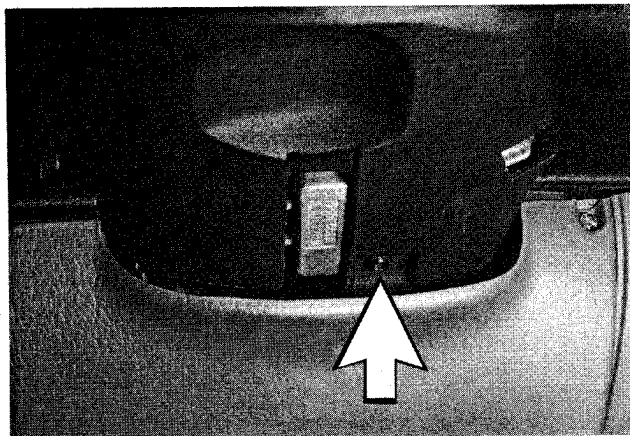

Fig. 1. Lower steering column cover retaining screw (arrow).
3. Remove screw retaining lower steering column cover and remove cover. Refer to Fig. 1.
5. Remove lower steering column cover from steering column. See Fig. 1.